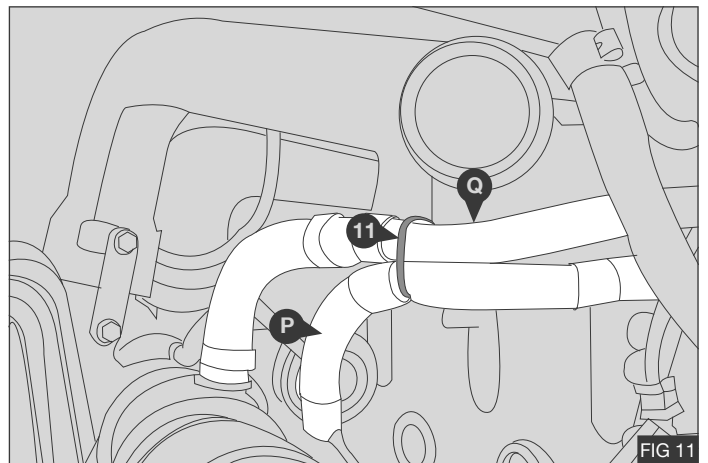

FIG 11
1. Secure the alternator wiring loom (P) to the steel pipe (Q) using supplied cable tie (11) - Fig 11